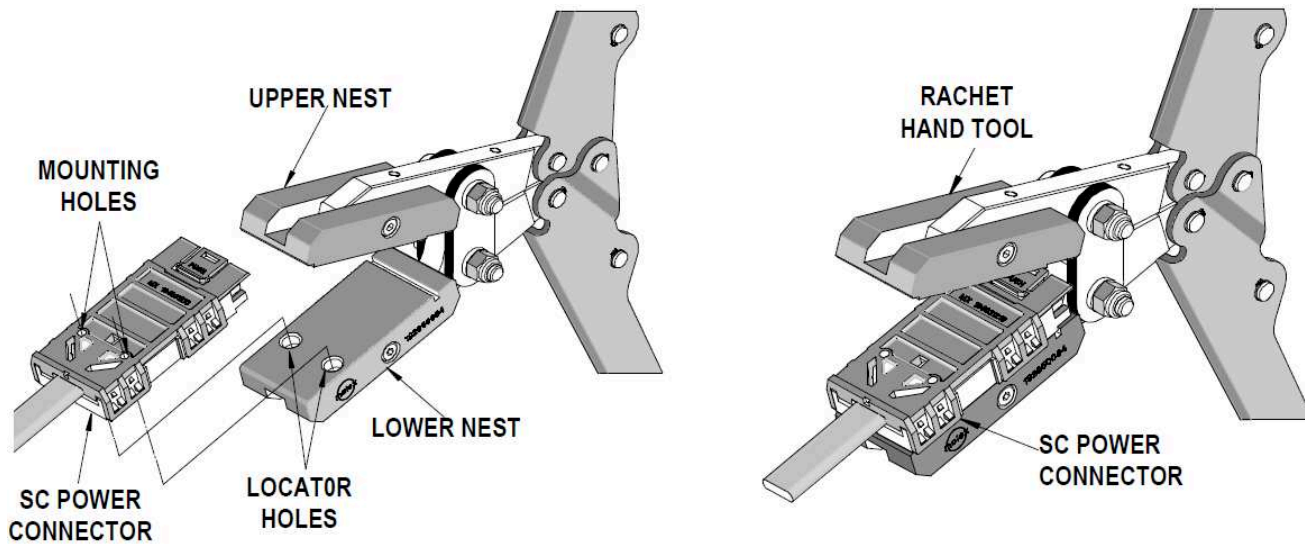
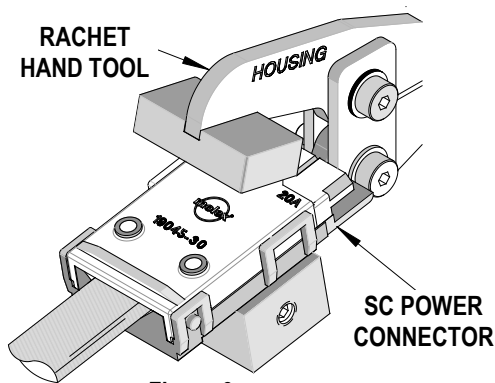

Figure 5
Figure 6
5. Close the strain relief cover and housing by hand. Place assembly into Molex tool as shown in **Figure 5** for connector with 4 latches or **Figure 6** for the hinged connector. Squeeze the tool until the connector bottoms out and the locking latches engage on both sides. OR alternately, squeeze the top and bottom closed with tongue and groove (slip joint) pliers as shown in **Figure 7** (Hinged connector assembly shown). Pliers must be a minimum of 10" long. Squeeze firmly on both sides, squarely across the connector between ribs A and B to ensure wires seat completely into slots.